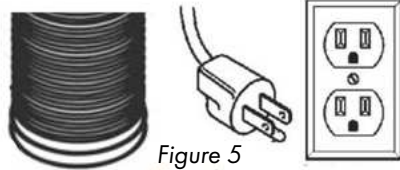

Figure 5
5. Make your electrical and ducting connections. Try and minimize the use of elbows. More elbows and longer runs create higher static pressure. The hood comes with a grounded three prong plug that can be plugged into a 20amp. circuit. The cord is 36" long. *Figure 5*